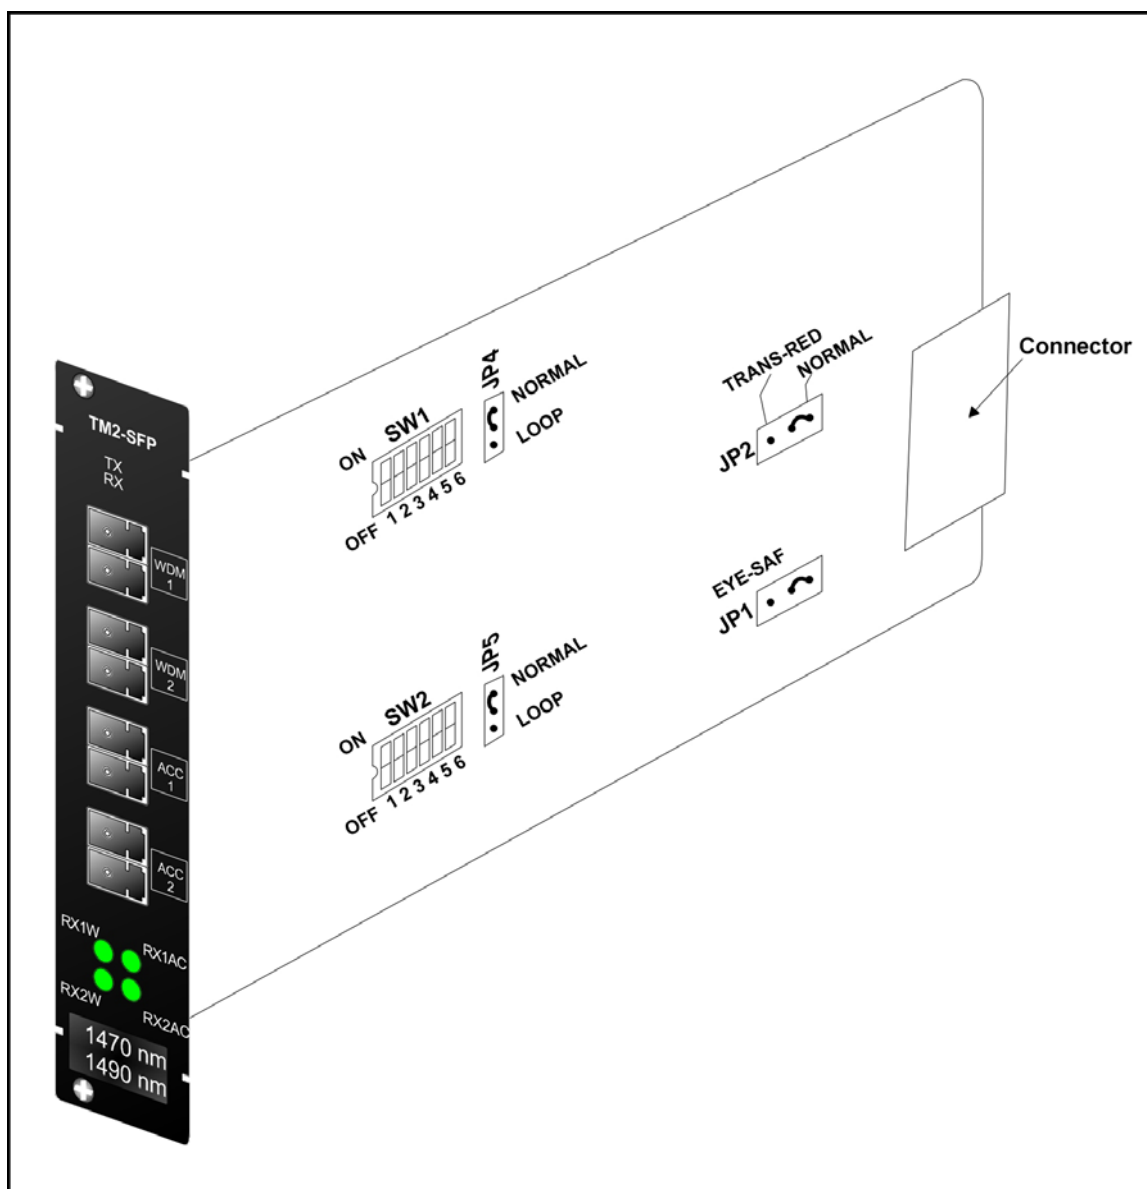

Figure 40: DIP Switch Location on TM2-SFP Transponder Module
1. With the aid of *Figure 40*, locate Jumper **JP1** on the TM2-SFP Transponder module and position it using *Table 10*.
- With the aid of *Figure 40*, locate Jumper **JP2** and position it using *Table 11*.
- With the aid of *Figure 40*, locate Jumpers **JP4** and **JP5** and position them using *Table 12*.
- With the aid of *Figure 40*, locate DIP switches **SW1** and **SW2** on the TM2-SFP Transponder module.